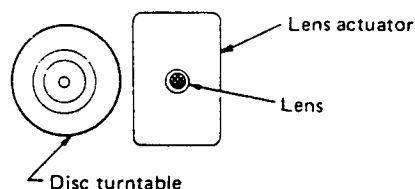

Fig. 17
1. Checking the object lens (Fig. 17)